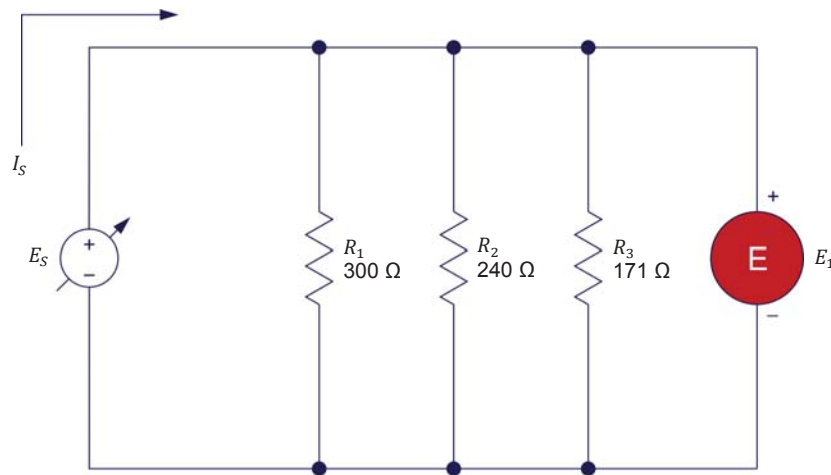

Figure 20. Determining the equivalent resistance of resistors connected in parallel.
8. Set up the parallel circuit shown in Figure 20. To obtain the resistor arrangement of Figure 20, make the necessary connection(s) and switch settings on the Resistive Load module.
9. Calculate the equivalent resistance ($R_{Eq.}$) of the parallel resistors R_1 , R_2 , and R_3 in Figure 20.
3. Refer to Figure 20. If resistors R_1 , R_2 , and R_3 each have a value of $100\ \Omega$, what is the equivalent resistance R_{Eq} ?